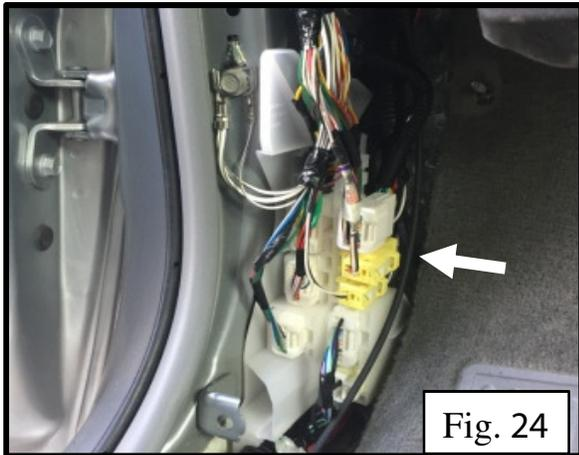

Fig. 24
9. Route the harness under the dash along kick panel following the existing wiring harnesses, using a cable tie (white arrow) to secure to the existing harness (Fig.24).